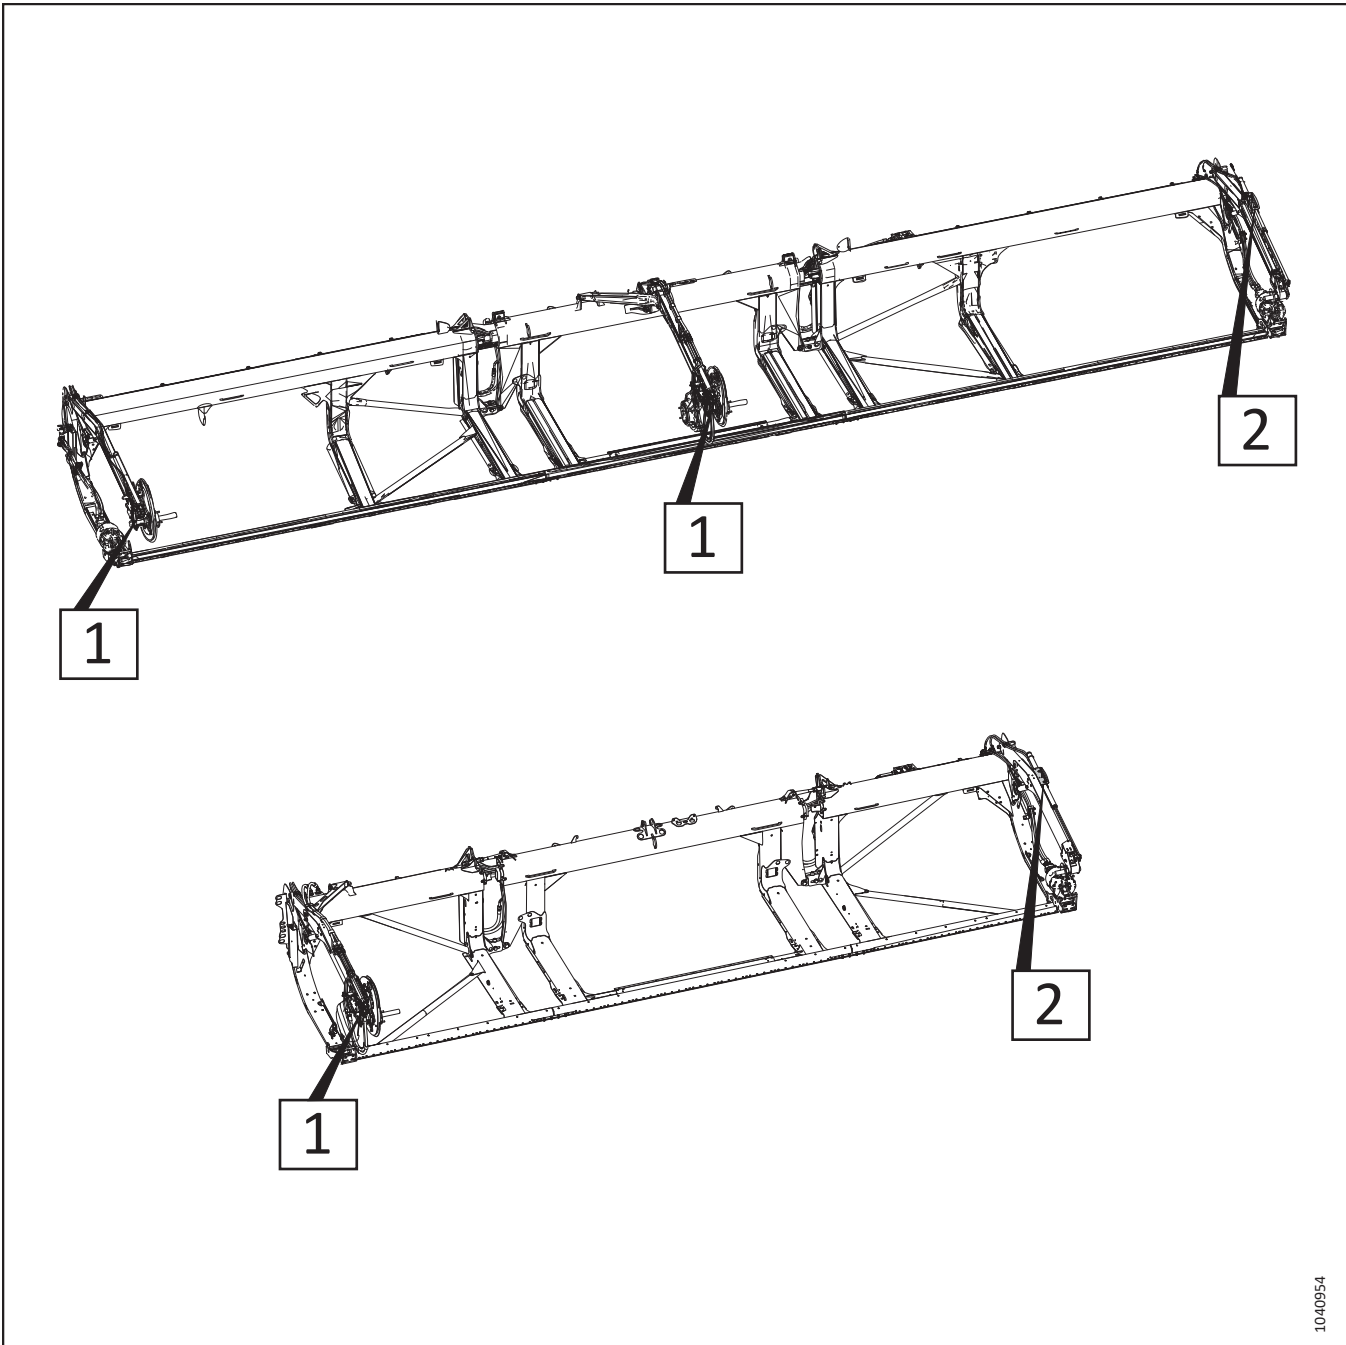

Figure 3.178: Adjustable Fore-Aft Cylinders – Procedure Reference Numbers
5. Refer to Figure 3.178, page 156 to determine the fore-aft cylinder adjustment procedures for your header type. The number on the illustration refers to one of the following procedures: